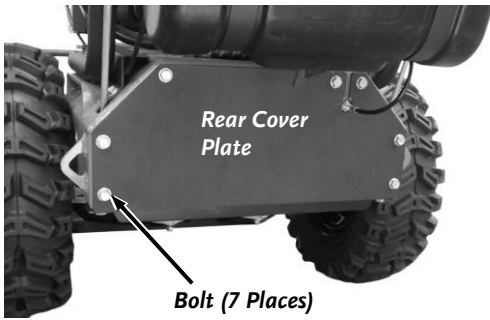

Figure 32
1. Remove the seven Bolts that secure the rear Cover Plate to the Frame using a 9/16" Wrench and remove the Cover Plate (**Figure 32**).